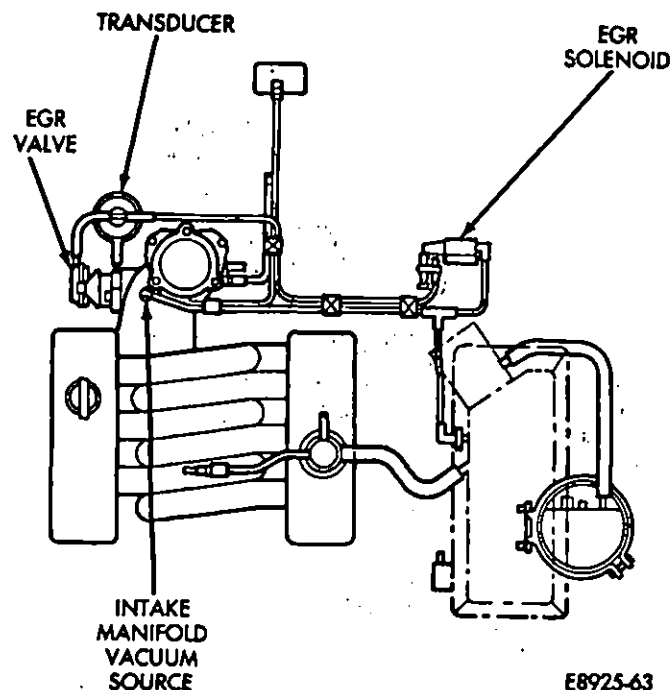

Fig. 9—EGR System Testing—3.0L Engine
(1) Bring the engine to normal operating temperature. Operate at idle speed. Test the EGR solenoid as follows:
(2) Check vacuum at solenoid vacuum source (Fig. 9). Disconnect the hose and attach a vacuum gauge to it.
(3) Vacuum should be a minimum of 15 inches. • If vacuum is low, check the line for kinks, twists, or a loose connection at vacuum connector or intake manifold (Fig. 9).
(4) Check vacuum at solenoid output port (Fig. 9).
(5) Disconnect the line and attach a vacuum gauge to output port (Fig. 9). Vacuum reading should be zero (no vacuum) at this side of solenoid.
(6) Disconnect electrical connector at solenoid and note vacuum at solenoid output port. Vacuum should now be present at output port (Fig. 9).
(2) Disconnect hose from EGR valve and connect a hand vacuum pump to EGR valve nipple (Fig. 9).
(3) Apply a minimum of 12 inches vacuum to the valve and note engine idle. If engine now idles roughly, inspect vacuum lines between vacuum connector on intake manifold (Fig. 9) and EGR valve, and back-pressure hose from EGR valve base to transducer for leaks. If no leaks are found proceed to vacuum transducer test.
(4) If the idle did not change, remove the EGR valve and inspect the valve and the exhaust passage in the manifold for blockage, repair as necessary. If no blockage is present replace the EGR valve.